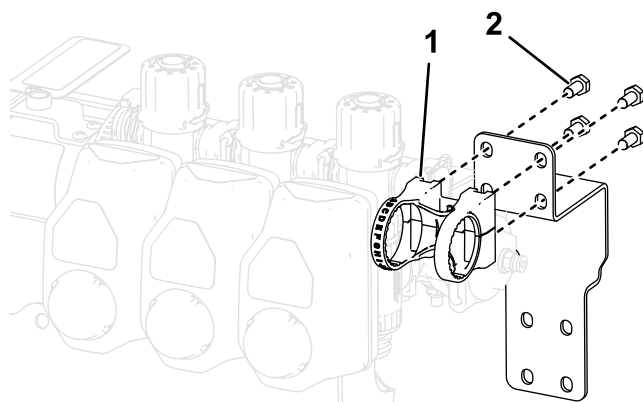

Figure 21
6. Install the control valve assembly onto the top of the control valve bracket using 4 screws (M6) as shown in Figure 21.